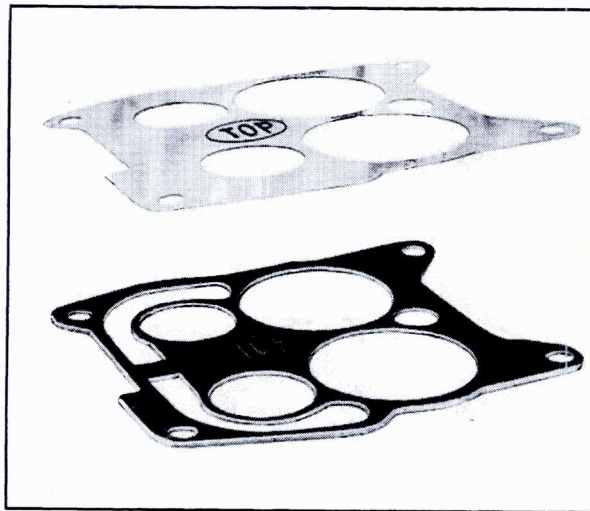

Fig. 6-67 Carburetor Gasket and Shim
2. Place new carburetor gasket on top of manifold with side marked "top" facing up, Fig. 6-67.